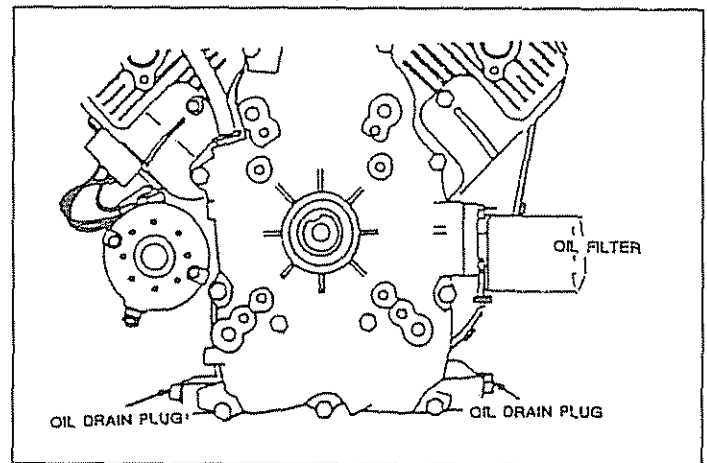

FIG. 14
- Clean area around oil drain plug, remove plug (Fig. 14) and drain oil completely into a suitable container.